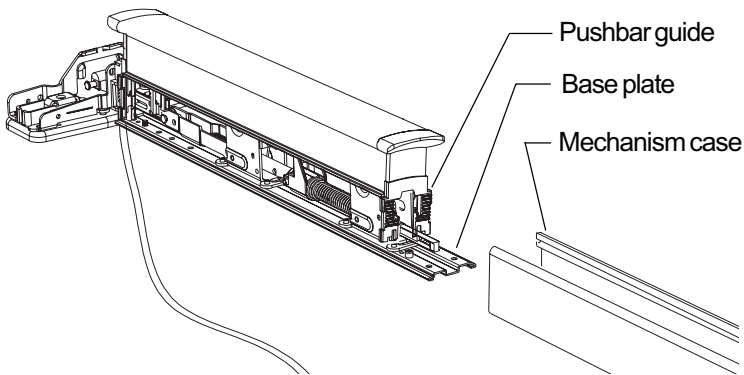

Figure 7-2
7.3. Slide mechanism case off baseplate assembly (Figure 7-2).
7.5. Slide mechanism case back on device. Align two plastic pushbar guides while installing mechanism case (Figure 7-2).